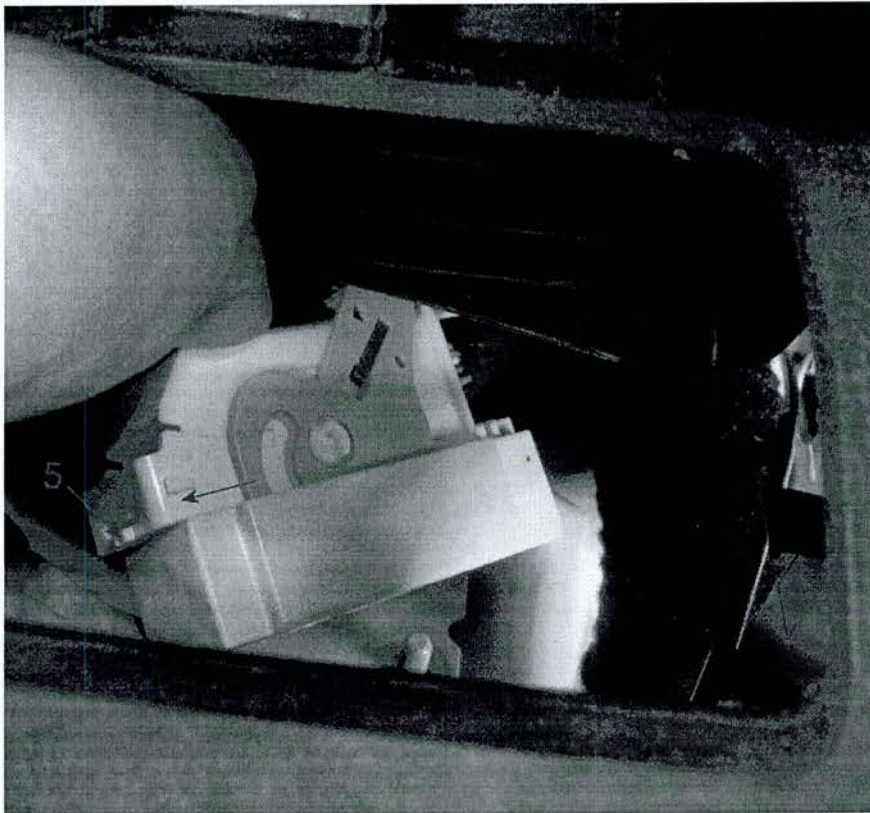

Figure 12
21. Lift and slide the cable cover at the rear of the housing over the two barbs at points 5 then lift the cover off the housing (see Figure 12)